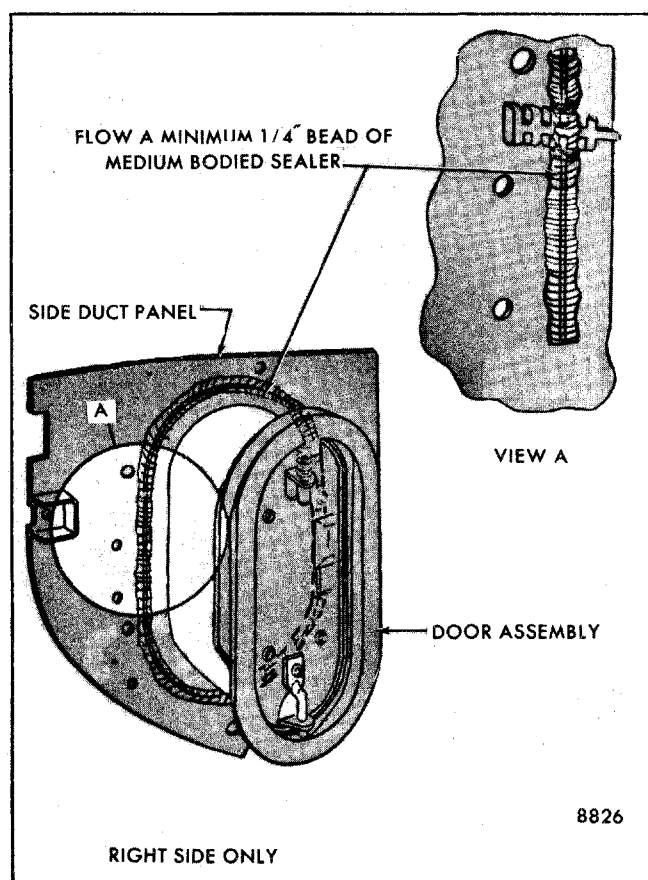

Fig. 4-17 - Side Duct Panel and Door Assembly Sealing
NOTE: Prior to reinstallation apply a minimum 1/4" bead of pumpable medium-bodied sealer completely around attaching flange of assembly as shown in Figure 4-17 to prevent water entry.
4. To install, reverse removal procedure. Use care not to disturb peripheral seal around door assembly (Fig. 4-17).